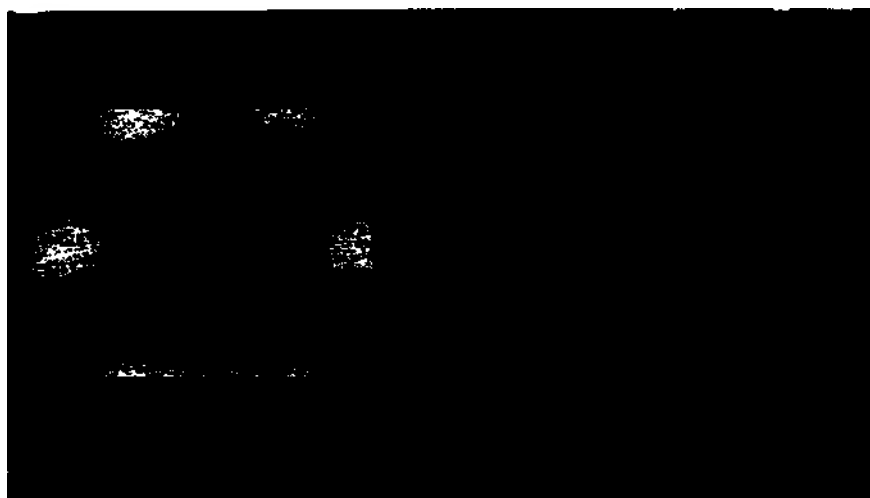

Fig. 67: Calibration check done
- ⇒ The green check marks for 'Sphere # 1' and 'Sphere # 2' are displayed together with the calibration check results (Fig. 67/1).